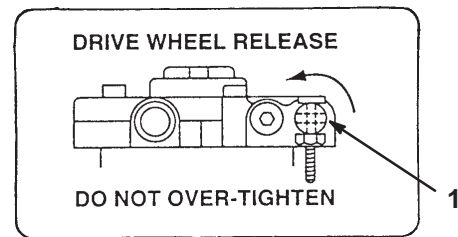

Figure 26
2. Rotate the by-pass valves counterclockwise 1 turn to push. This allows hydraulic fluid to by-pass the pump enabling the wheels to turn (Fig. 26).
1. Turn the by-pass valves in to operate (Fig. 26).